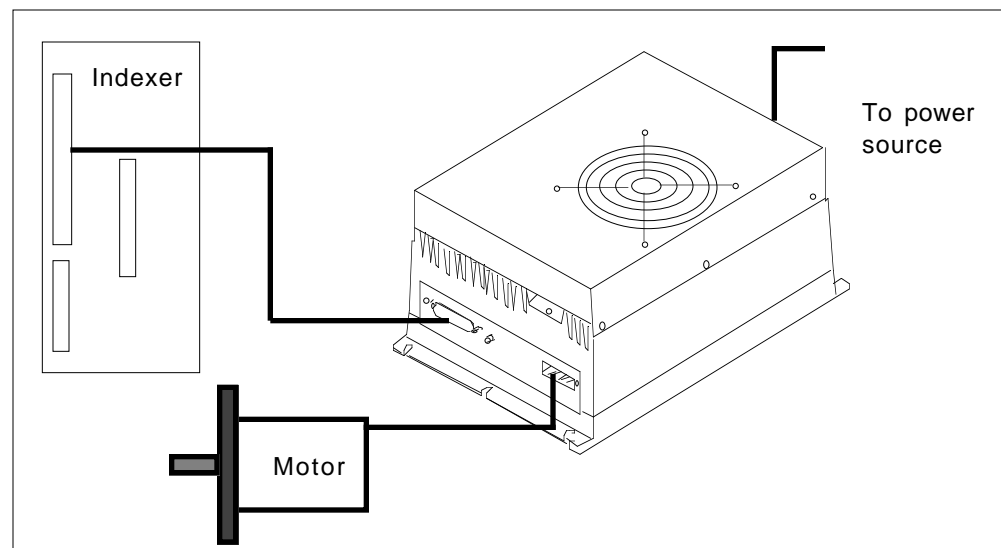

Figure 2-1. System Diagram
- ① Remove the panel that covers the DIP switches. Turn DIP switch **SW2-#1 off** to disable the Automatic Test function. Ensure that switches **SW2-#3** through **SW2-#6** are off. **Do not change any other DIP switch settings.** Screw the panel back onto the drive.
- ② Connect your Compumotor indexer to the drive's 25-pin D indexer connector (refer to Figure 2-1). The appropriate cable is provided with the indexer.
- ③ Ensure that the pre-wired motor cable is connected (refer to Figure 2-1). Apply power to the drive and indexer.
- ④ Using the indexer, send step pulses to the drive that will rotate the motor one CW revolution (50,000 step pulses) at an acceleration of 1 rps^2 and a velocity of 1 rps (50,000 steps per second).
- ⑤ Using the indexer, send step pulses to the drive that will rotate the motor one CCW revolution at an acceleration of 1 rps^2 and a velocity of 1 rps (50,000 steps per second).
- ⑥ **Now you will test the Shutdown input. With no step pulses applied to the drive, activate the Shutdown input. Refer to your indexer's operations manual for instructions on activating the Shutdown input.**